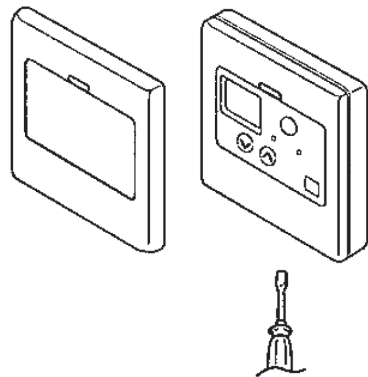

fig.2
3. Remove the face plate from the controller using a flat screwdriver. Take care not to damage the cover (fig. 2.)